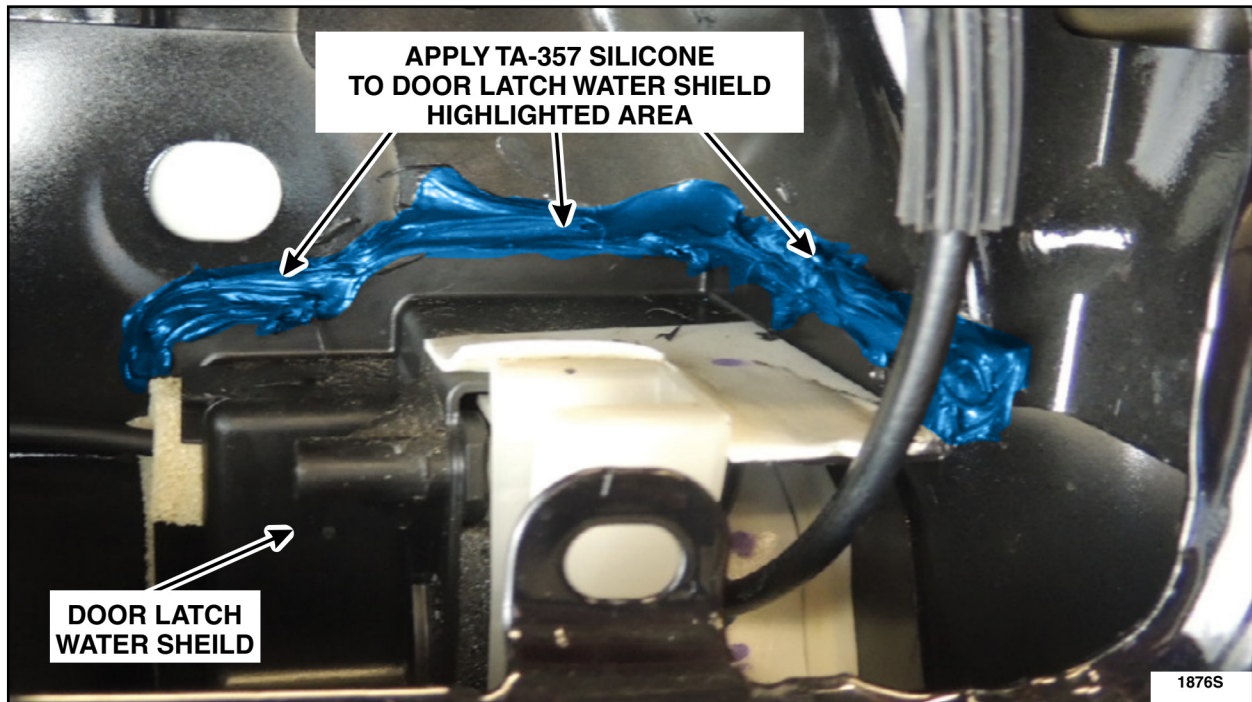

FIGURE 47
27. Apply Motorcraft® TA-357 High Performance Engine RTV silicone in and over the mating area of the water shield to the door inner panel from the front to the outboard corner. Using light finger pressure, smooth the bead of silicone. See Figure 47.